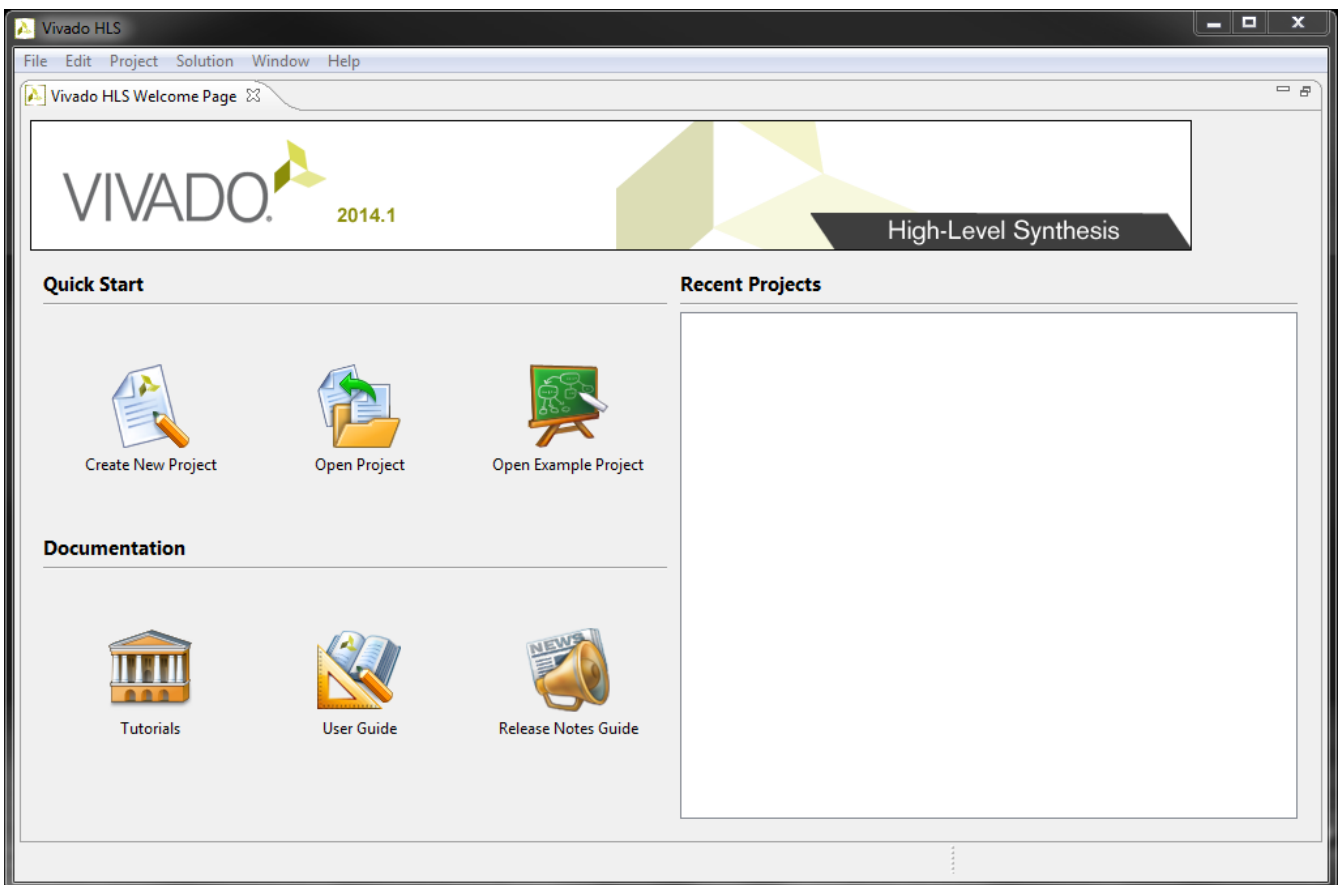

Figure 4.24: Vivado HLS Getting Started screen
- (b) When Vivado HLS loads, you will be presented with the *Getting Started* screen, as in Figure 4.24.